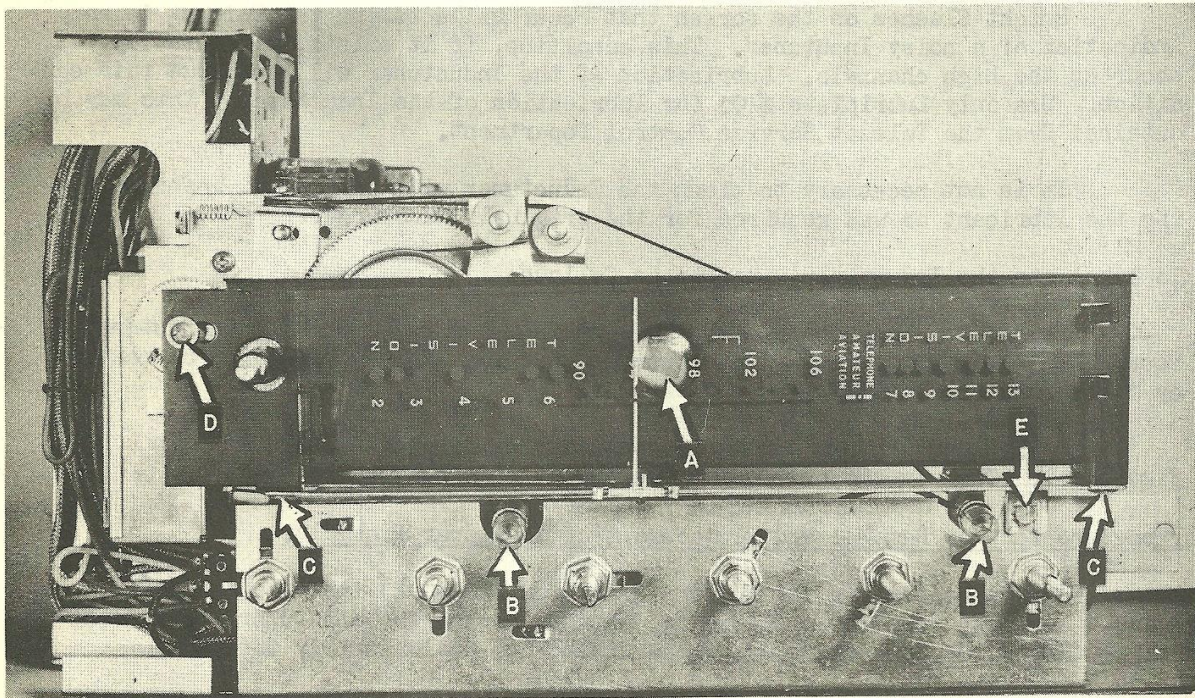

Figure 5-2. Inputuner Removal Points
1. Loosen thumb screw and remove tuning indicator tube (A - Figure 5-2) and clamp from mounting.
2. Remove the two dial lamps (B - Figure 5-2) with clip mounting.
6. Remove screw (E - Figure 5-2) holding dial assembly to main chassis.
1. Loosen thumbscrew and remove tuning indicator tube (A - Figure 5-2) and clamp from its mounting.
4. Remove dial plate mounted by two snap fasteners (C - Figure 5-2) and one screw (D - Figure 5-2), taking care not to damage pointer.